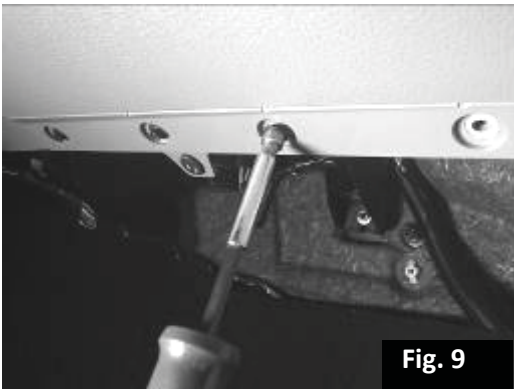

Fig. 9
14. Remove the four screws along the bottom of the glove compartment. Fig. 9